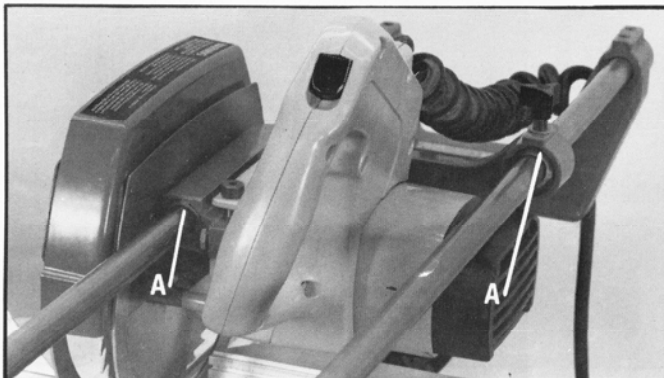

Fig. 72
The felt wipers (A) Fig. 72 and 73, that ride on the two track arms should be lubricated occasionally with light machine oil. These wipers must also be lubricated when the saw is first purchased after the protective coating is removed from the track arms.